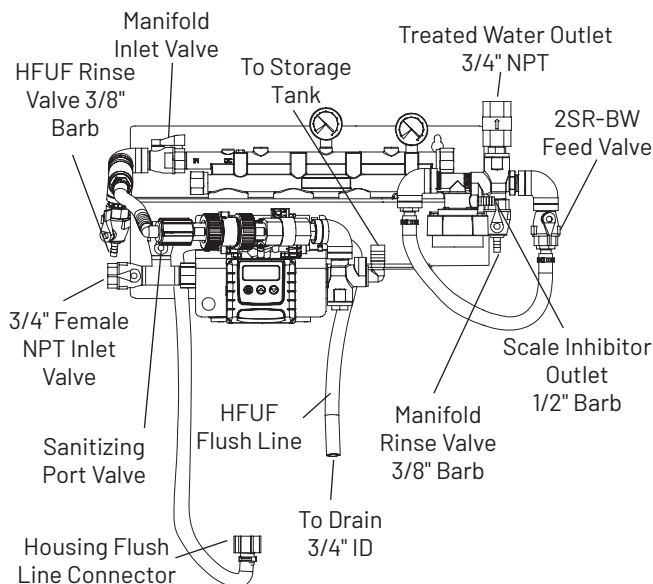

Figure 1
2. Mount the manifold using four (4) screws in the bracket mounting holes. The slots will accept a 3/8" diameter lag bolt or screw.
3. Do not connect the treated water outlet ports to the equipment being served until after the system has been flushed ("Figure 1").
4. Attach one of the supplied 3/8" I.D. tubing to the fitting on the HFUF Flush Valve ("Figure 1"). Use one of the spring clamps to secure. Run the other end of the tubing to a drain.
5. Attach the second piece of 3/8" I.D. tubing to the fitting on the Manifold Rinse Valve ("Figure 1"). Use one of the spring clamps to secure. Run the other end to a drain.
7. Turn off the flow valves shown in "Figure 1":
12. A short piece of new 3/4" tubing (15 in./38.1 cm long) is provided with the system. Attach the tubing to the barb connection on the exit (right) side of the head for the Pentair Everpure Endurance SC HFUF ("Figure 1"). Use one of the supplied Oetiker clamps to secure.
16. There are four (4) union connections above the controller that may loosen during shipping. Two (2) for the solenoid valve and two (2) for the turbine. Tighten each one by hand to secure the connection.